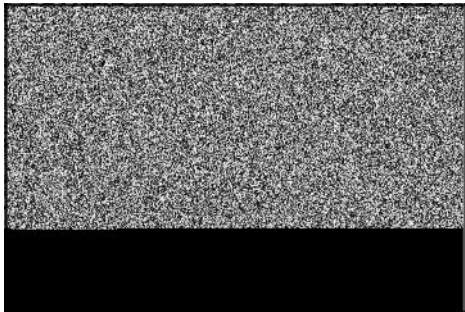

Figure 19
3. Remove dipstick and oil fill tube (A, Figure 19).
4. Remove blower housing and rewind starter (B).